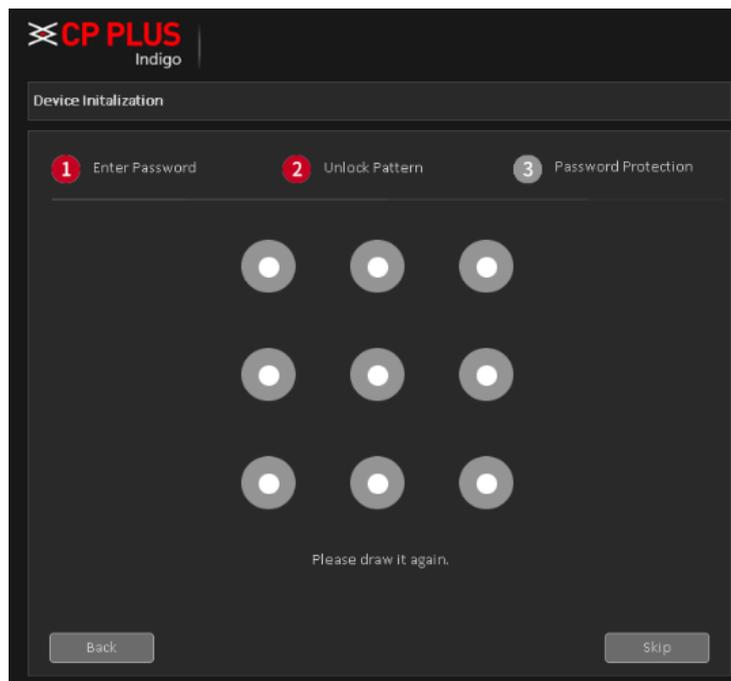

Figure 3.5
- ✓ Confirm the pattern, as display in Figure 3.5